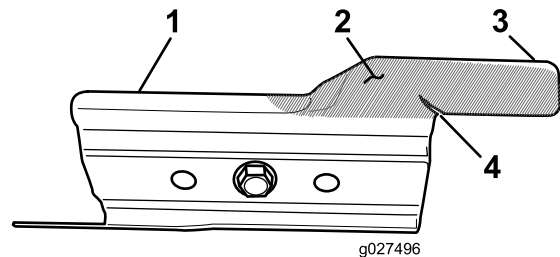

Figure 30
Carefully examine the accelerator for excessive wear (Figure 30). Because sand and abrasive material can wear away the metal (especially in the area shown as item 2 in Figure 30), check the accelerator before using the machine. If you notice that a tab on the accelerator has been worn down to a sharp edge or there is a crack, replace the accelerator; refer to Removing the Blade (page 23).